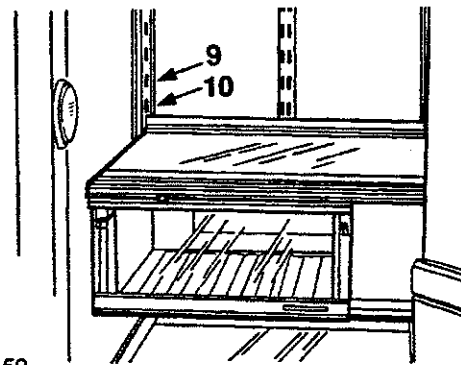

Figure 59
- g. Counting down from top slot of metal track on rear wall, use only slots 9, 10, 11, or 12 for new Deli Fresh Chiller position. Cold air supply tube must completely cover air inlet port on left rear refrigerator side wall. See Figure 59.